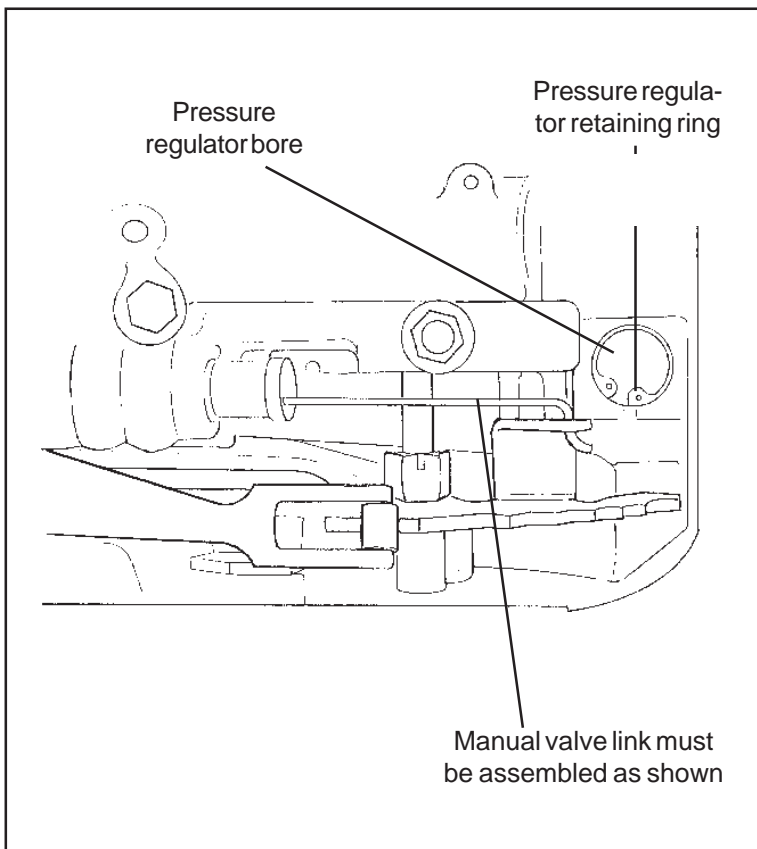

Figure 6
Remove the snap ring at the end of the pressure regulator bore in the oil pump assembly (**See Fig. 6.**) Use a screwdriver to hold the pressure regulator assembly while removing the retaining ring. If the sleeves stick in the bore, lightly rap the sleeve with a small rod and a mallet. Remove two sleeves with valves and the pressure regulator spring. The pressure regulator valve may fall out but it does not need to be removed.
**STEP 19. Valve body installation.** Make sure check balls are in proper locations. Position the manual valve so the link rod can be engaged (See Fig. 6.) The link rod must be placed into the hole of the manual rod at a right angle, then rotated to allow the valve to enter the valve body bore. Do not force the valve at any time. When the valve is fully engaged, align the valve body and